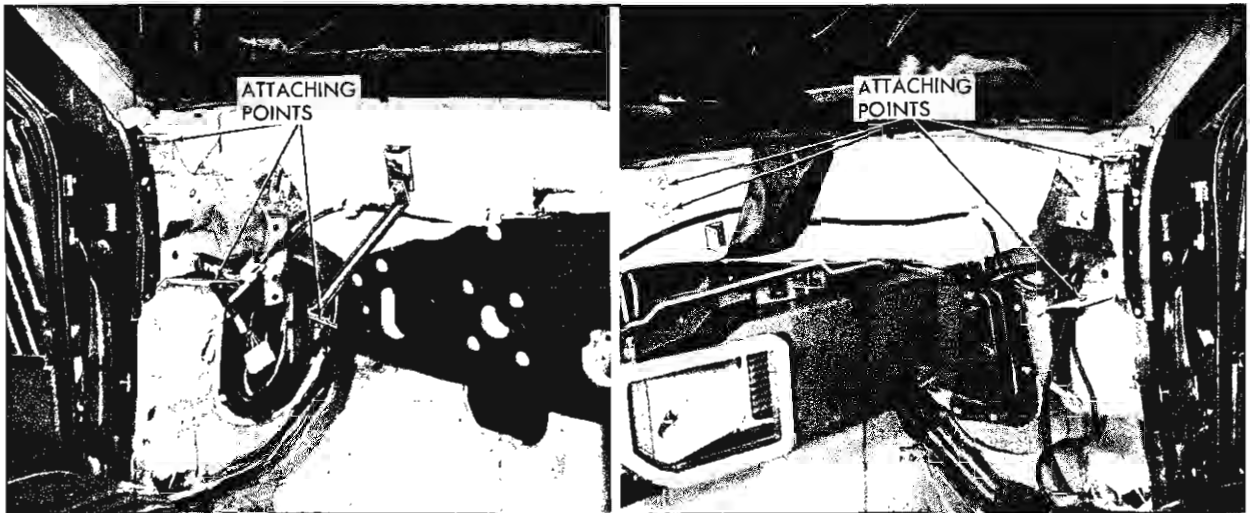

Fig. 2-12 Instrument Panel Attaching Points
7. Remove six instrument panel attaching bolts from the locations indicated in Fig. 2-12.